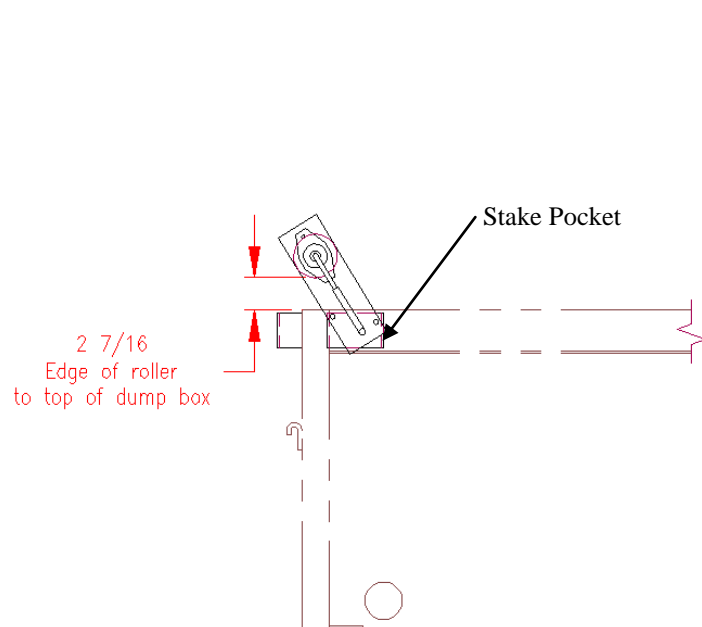

Figure 1 – Left Hand (Drivers Side) Dump Box
Locate the tarp roller. Assemble the tarp roller by inserting the smaller tube into the larger tube. Orient the tarp roller so that the crank handle is on the driver's side of the trailer. Clamp the tarp roller brackets to the stake pockets so that the brackets are positioned as shown in Figure 1 or 2. Drill (2) 13/32" holes into each stake pocket. Secure with the hardware included (4) 3/8x1-1/2 bolts, (4) 3/8 flat washers, and (4) 3/8 lock nuts.